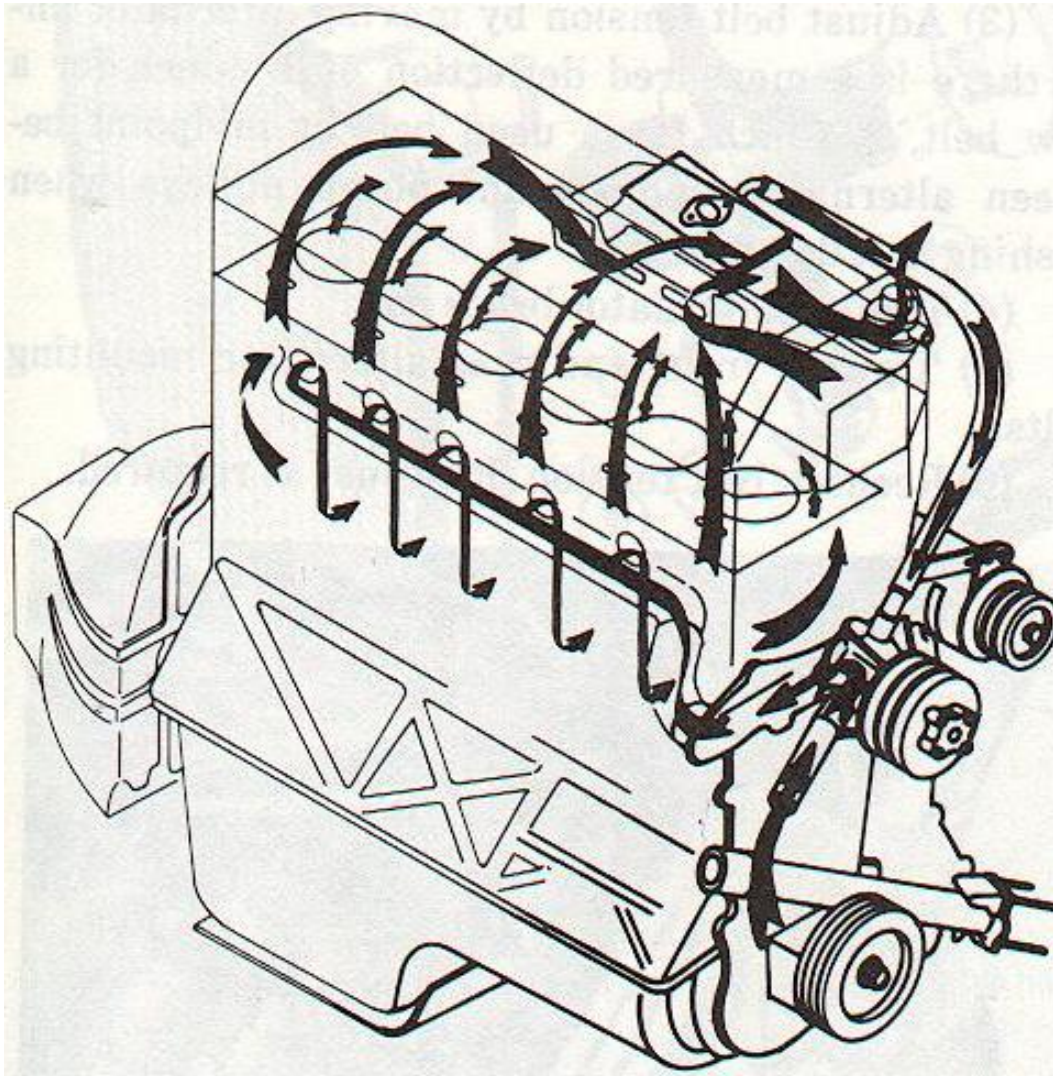

Figure 2-23. Coolant flow through engine
a. Cooling System. The cooling system (fig 2-23) is a forced circulation, pressurized type consisting of a coolant pump, fan, shroud, drive belts, hoses radiator and a pressurizing radiator filler cap. The coolant is drawn from the radiator by the water pump and circulated through the cylinder block and head. After circulation throughout the engine, the coolant is forced through an outlet past the thermostat, and back into the radiator assembly. As the coolant passes through the radiator, it is cooled by air drawn through the radiator by the fan and the forward motion of the vehicle. When because of insufficient operating temperature, the thermostat is closed, constant circulation of the coolant is provided through the engine by a bypass hose connecting the thermostat housing with the intake side of the coolant pump assembly.
- g. Thermostat. The thermostat is a spring and cartridge type, located in the thermostat housing, on top front end of intake manifold. The thermostat restricts the flow of coolant to the radiator until a predetermined temperature is obtained at which time it begins to open. When the coolant at the thermostat reaches the rated temperature of the thermostat, the thermostat valve will be fully opened. Refer to figure 2-23.